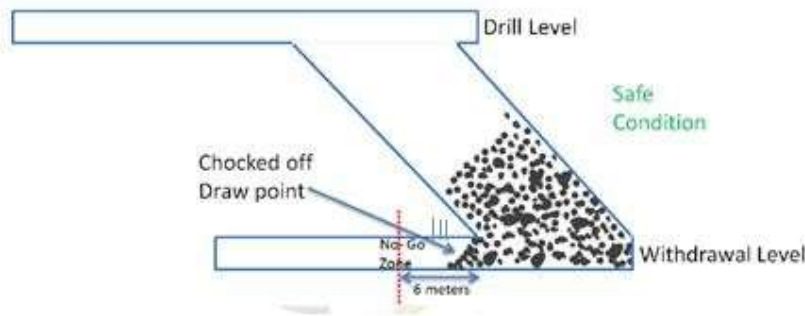

Fig.2 Position of Draw point with brow closed (safe for free bogging)
5.9 Free Bogging - process of removal of blasted ore by LHD where the brow of the stope is nobpened, and muck reeled down from the stope as per the angle of repose and LHD operator's cabin always remains in the supported ground. (ref. Fig 2). In this operation the LHD operators remains inside the machine.